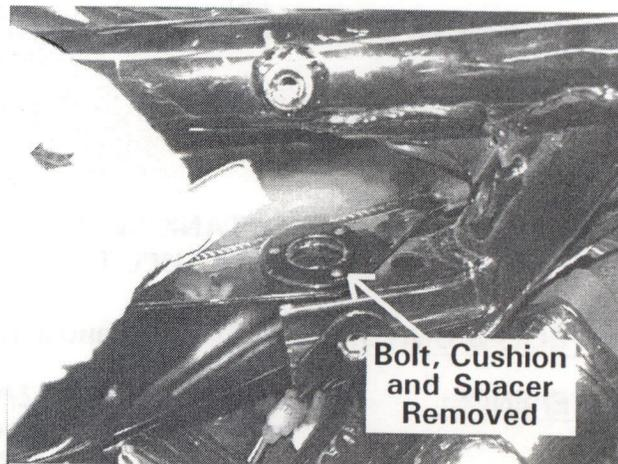

FIGURE 1
2. Remove the right front mount bolt, cushion and spacer (Figure 1). Using a medium grit sandpaper, lightly sand the affected area to remove loose paint and debris and create an adhesive surface for the sealant. Clean the sanded area with a non-petroleum based solvent such as alcohol and allow to dry.